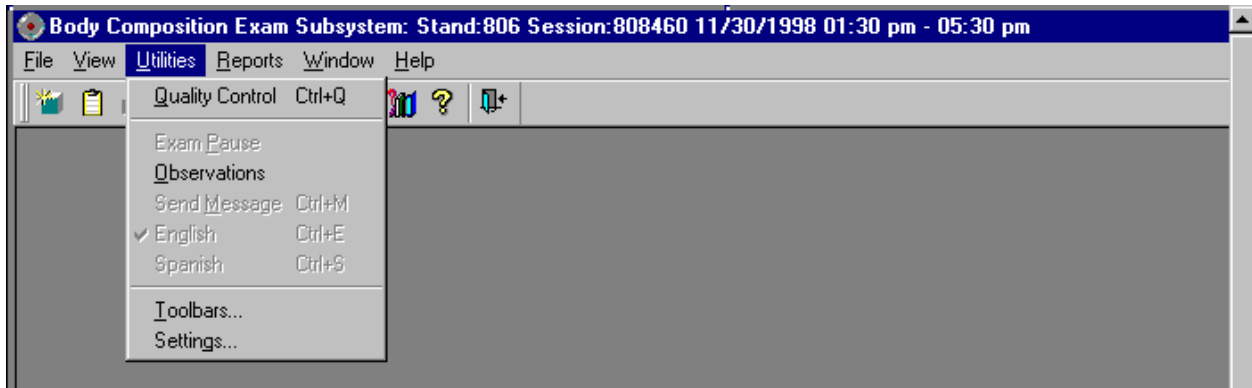

Figure 6-17. Utilities menu to select quality control
- When you want to complete the QC checks, select 'Utilities.' Then select 'Quality Control' from the menu. See Figure 6-17.